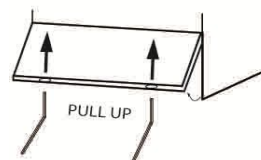

Fig.7
- 2- For Hoodtype models, unscrew the two screws located on the bottom of the panel. (Fig.7)